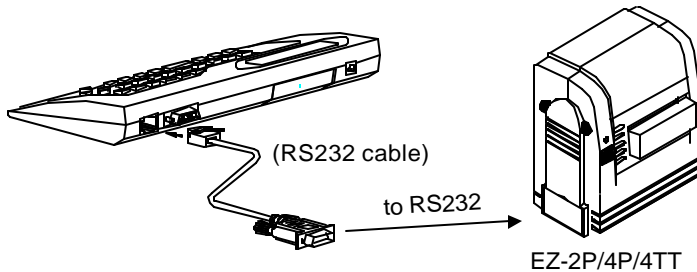

Figure 1.4.1
Be sure KP-180 has been connected to printer's RS-232 port (see figure 1.4.1).
2. Using the RS232 cable to connect the KP-180 and printer (see figure 1.4.1). Printer's RS232 setting: 9600,N,8,1.